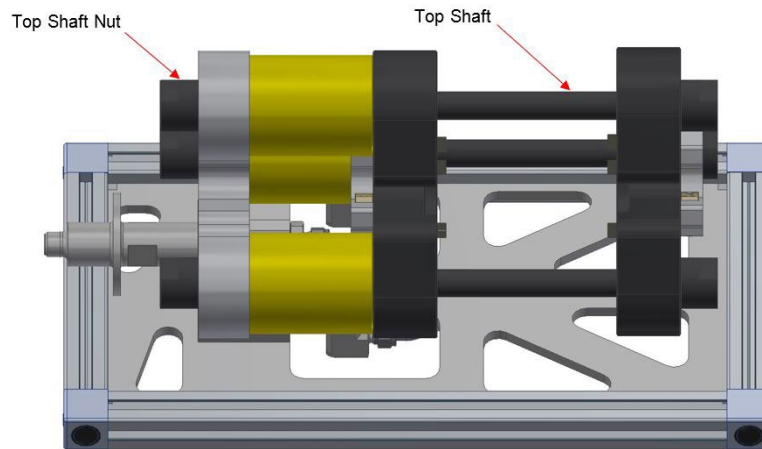

Figure 62
1. Use a pair of 30mm spanners, to hold the head of the top shaft while loosening the shaft nut. Remove the nut from the top shaft (Figure 62).